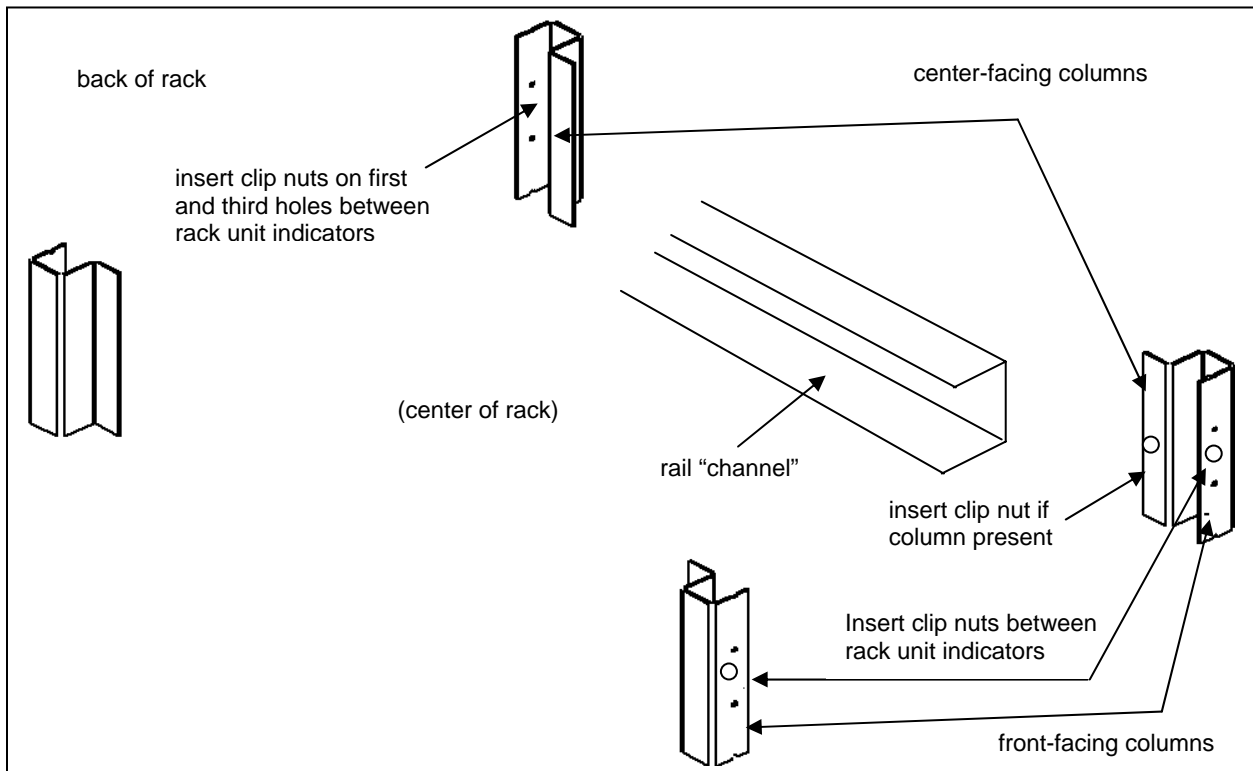

Figure 3. Rack Column and Shelf Rail Orientation.
1. Select the vertical position in the rack between any two adjacent EIA unit indicators where the L4400 instrument is to be installed. Insert clip-on nuts (item 5) on the three holes between the unit indicators. Place nuts on both the left and right front-facing columns (Figure 3).
If center-facing columns with holes are present on the frame, insert a clip-on nut on the hole perpendicular to the center hole on the front facing column. See Figure 3.
2. With the rail "channel" facing the center of the rack, connect the rail (item 8) to the front facing column using a 10-32 flathead screw (item 4) and the center clip-on nut on the front-facing column. Repeat for the rail on the opposite column. Ensure the rail channel faces the center of the rack.
If the rack has center-facing columns (Figure 3), insert a 10-32 pan head screw (item 3) through the rail opening and clip nut (perpendicular to the front-facing column). Repeat for the rail on the opposite column.
4. Attach the rear brackets (item 10) to the rail ends using two 10-32 pan head screws (item 3) and two 10-32 nuts with lock washers (item 6) per rail. Adjust the bracket along the rail until the bracket end aligns with (covers) the rack's rear-facing columns. Tighten the 10-32 pan head screws to firmly connect the bracket to the rail and maintain the rail length.